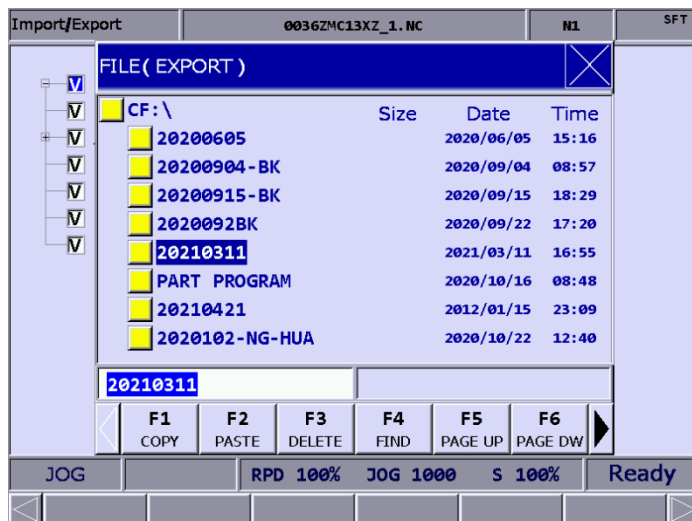

Figure 9.9.2
- (5) Press **EXPORT** and the file manager (FILE) window appears as shown in Figure 9.9.2.
- (6) Then, the screen displays a progress bar showing the exporting process until the exporting is finished.
- (7) If you want to save the exported file to a new created folder, name the folder, then press **FOLDER** to save the exported file in the folder, as shown in Figure 9.9.2.
- (8) If you save the exported file to a folder where an exported file already exists, a confirmation window appears. Enter “Y” and press **ENTER** to replace the existing file with the newly exported file.